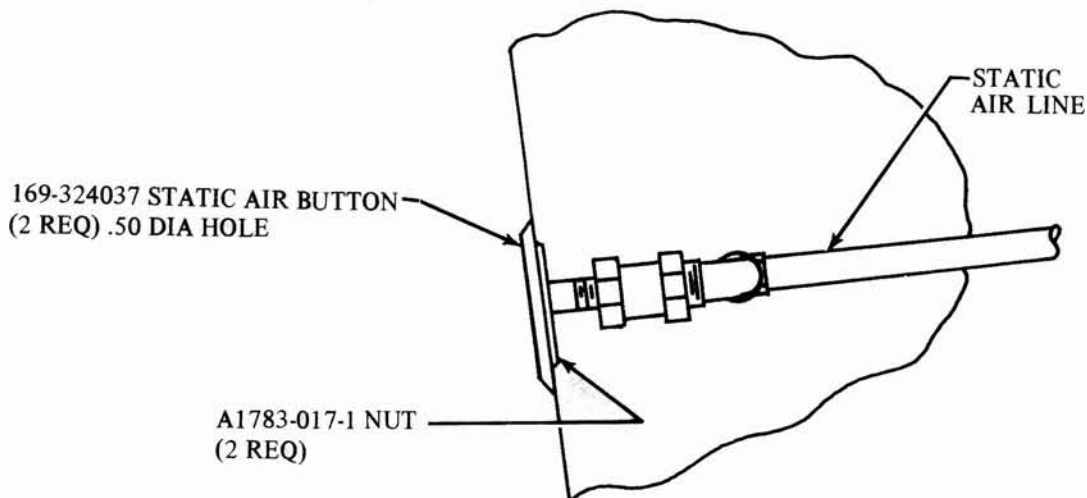

Figure 1. Static Air Button Installation
6. Install the new P/N 169-324037 static air buttons as shown in Figure 1.